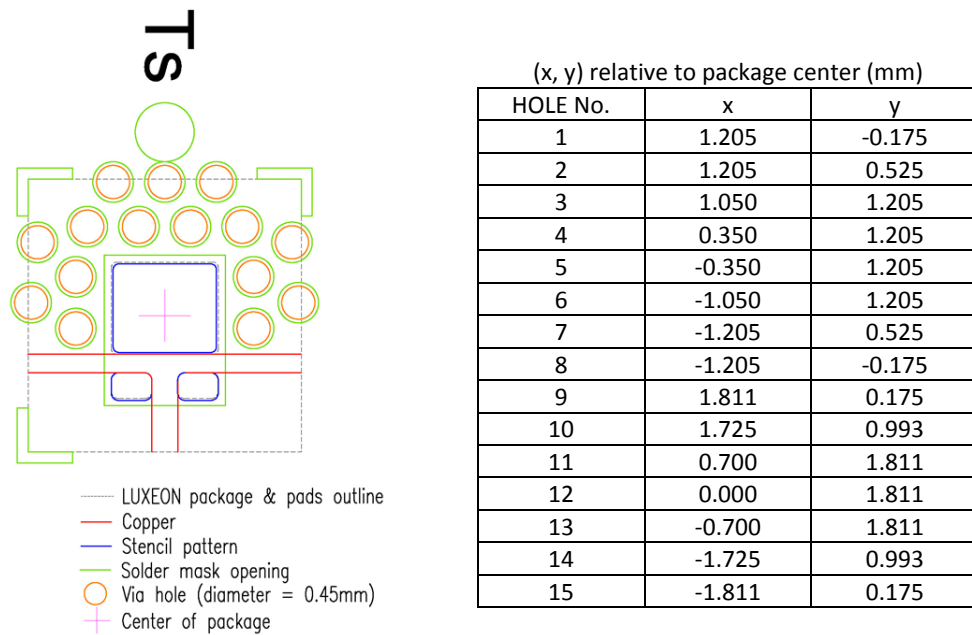
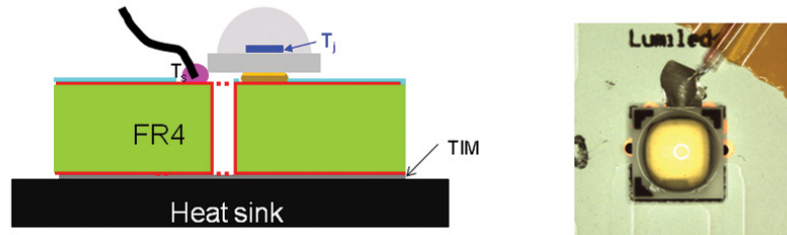

Figure 6. FR4 PCB design with 15 open PTH vias.
Figure 7. Schematic cross section (left) and top view (right) of a LUXEON emitter on an FR4 PCB with open PTH vias.
The thermal conductivity between the top and bottom layers of the PCB was measured for the PCB design in Figure 6. The design contains 15 thermal vias and yields a thermal resistance of approximately 9K/W between the thermal pad of the LUXEON emitter and the bottom of the PCB. Placing additional thermal vias around the LUXEON emitter does not provide a substantial reduction in the overall thermal resistance.
In typical applications it may be difficult, though, to measure the thermal pad temperature  $T_{\text{thermal pad}}$  directly. Therefore, a practical way to determine the junction temperature for the LUXEON emitter is by measuring the temperature  $T_s$  of a predetermined sensor pad on the PCB right next to the LUXEON emitter with a thermocouple. The recommended location of the sensor pad is right next to the LUXEON emitter, on the center line between anode and cathode, as shown in Figure 6 and Figure 7. To ensure accurate readings, the thermocouple must make direct contact with the copper of the PCB onto which the thermal pad of the LUXEON emitter is soldered, i.e. any solder mask must first be removed before mounting the thermocouple onto the PCB.
The thermal resistance  $R\theta_{j\text{-s}}$  between the sensor pad and the junction of the LUXEON emitter was experimentally determined to be approximately 9K/W for the FR4 PCB design shown in Figure 6. The junction temperature can then be calculated as follows:
1. Ensure that small L-shaped alignment markers, which define the desired location of the LUXEON package outline, are included in the PCB design, as shown in Figure 6 and Figure 14. It is preferable to define those markers with openings in the solder mask rather than silk screening them on top of the solder mask. If the ink height is too thick and too close to the solder mask opening, it may interfere with the stencil paste printing quality.